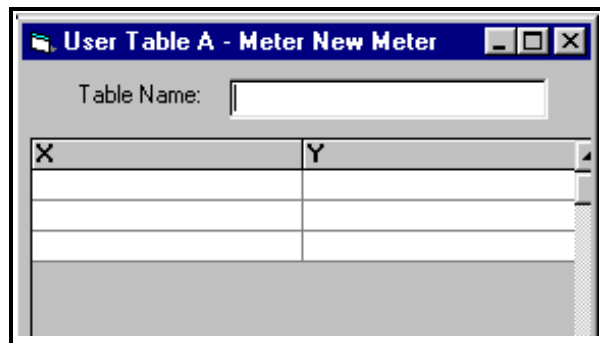

Figure 18: User Table Window
2. Click on “*User Tables*,” and then double-click on the desired table. The right side of the screen appears similar to Figure 18 below.